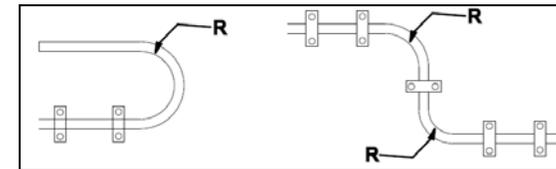

Figure 3
- ☞ The bending radius should not be less than 60mm as shown in the Figure 3.